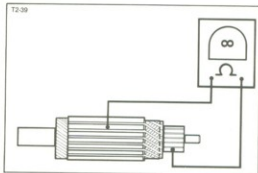

Figure 5-6. Armature Ground Test
- See Figure 5-6. Touch one probe of the ohmmeter to the armature core and the other probe to any commutator segment. There should be no continuity (infinite ohms). Any other reading indicates a grounded armature which should be replaced.